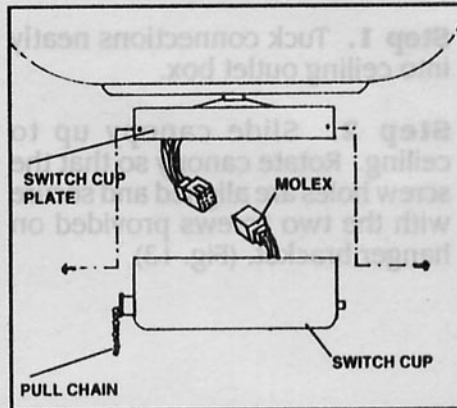

FIG. 16
Step 1. Remove the screws from the switch cup plate. While holding the switch cup, firmly snap the wire molexes together. Next, slide switch cup up against plate and rotate it until the screw holes are aligned. Secure switch cup to plate using the screws removed earlier. (Fig. 16)
Step 2. Attach the pull chain fob to the chain on the switch cup. (Fig. 16)